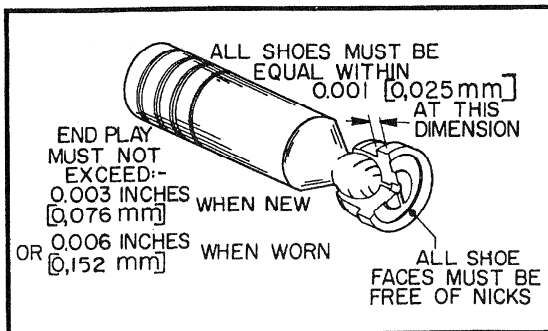

Figure 9. Piston and Shoe Inspection (511783).
See Figure 9. Piston shoes must pivot smoothly, but end play should not exceed 0.006" (0.152 mm). Check end play as follows: Place square end of piston on bench and hold down firmly. Pull on end of shoe with other hand and note end play. The shoe must rotate and pivot on the piston ball. Inspect each shoe face for nicks and scratches. Measure shoe thickness [the part held between shoe retainer (14) and swashblock (11)]. All shoes must be equal within 0.001" (0,025 mm). If a single piston/shoe assembly needs to be replaced, all piston/shoe assemblies must be replaced. Replace as part of Piston/Shoe Kit No. 87. When installing a new rotating group kit, make sure pistons are free in their bores.